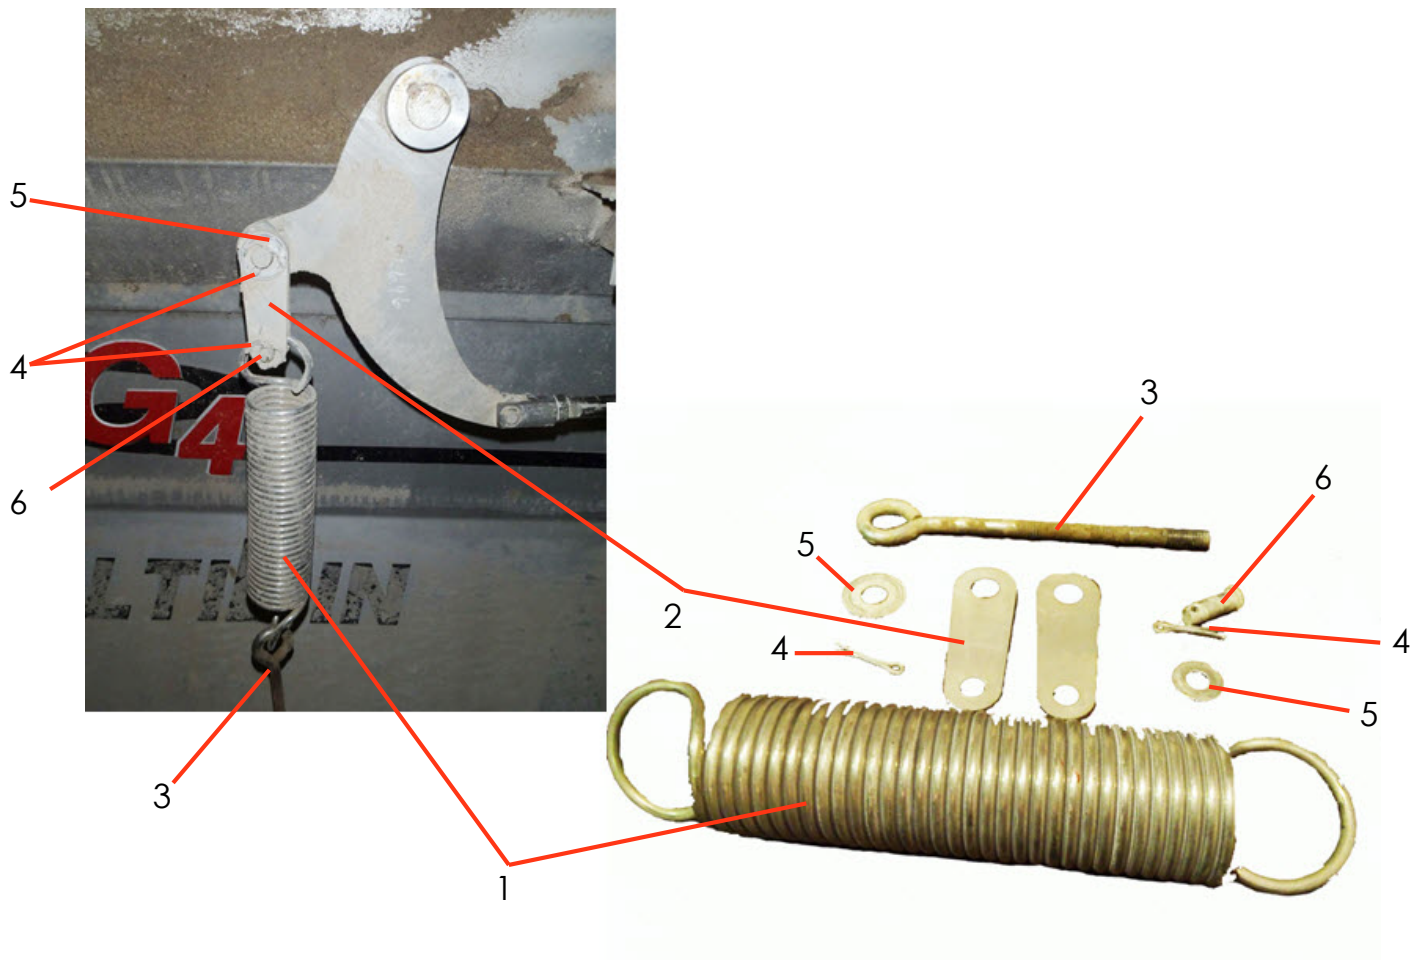

Figure 11
11. Figure 11 - Remove cotter pin (4) and flat washer (5). Set hardware aside for later use. Remove spring assembly to workbench and disassemble spring assembly. Save eyebolt (3) and hardware (4-6). Discard old spring (1) and old clevis plates (2).